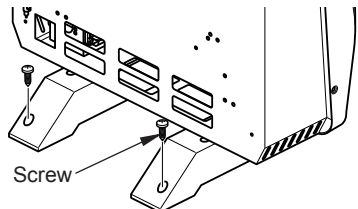

Figure 13 - Securing Heater to Floor
5. Position the heater to the desired location. Secure the base feet to the floor by using two Phillips head screws (provided) (see Figure 13).